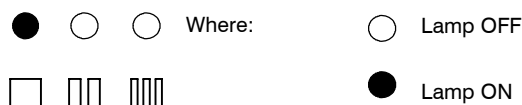

Fig. 44
- 6 The lamps E should give the indication as in Fig. 44. If not, press the reset button repeatedly to obtain it.